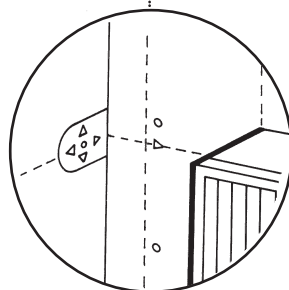

Fig. 41
7. From the wall template cut out the 'D' shaped section. Using this as a template, line up the horizontal triangular cut outs with the extended 300mm (12 in) line and make sure that the flat of the template is butted up against the corner of the wall (Fig. 41).